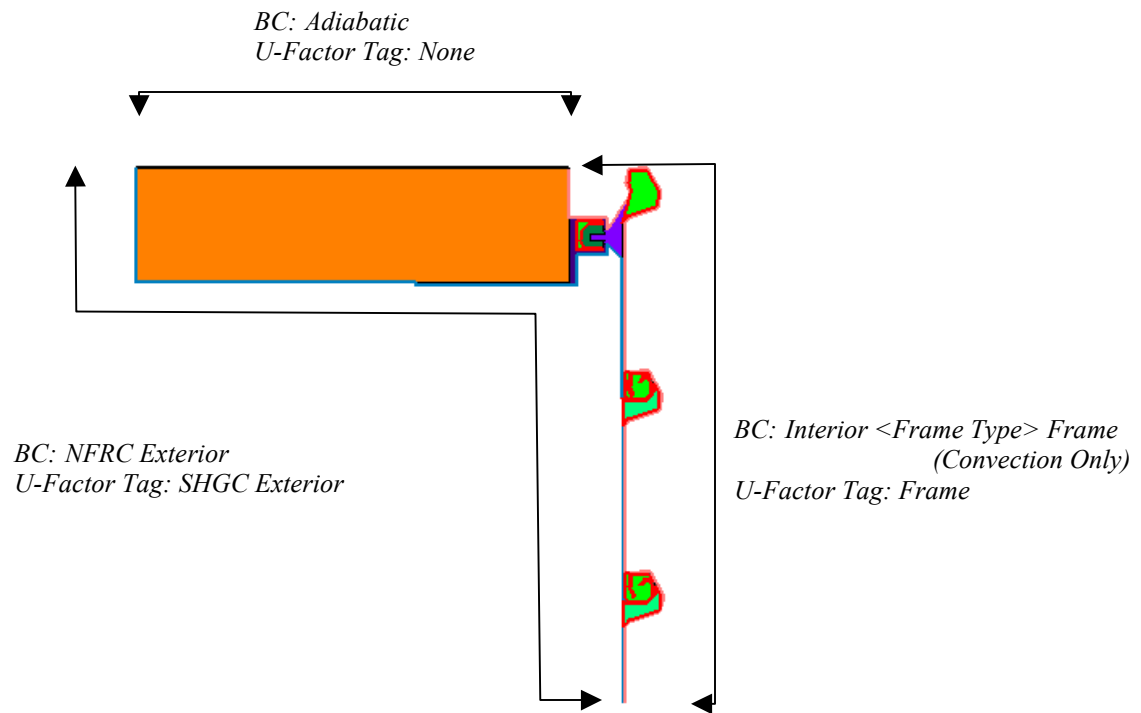

Figure 2: Top Rail THERM Model
A nominal 2x6 wood block is used in the Top Rail Model as shown in Figure 2. The torsion spring assembly, and any non-continuous hardware, shall not be included in this model. The top rail model shall include two complete slats and one half slats. The boundary condition (BC) type and U-factor tags used in the model are described in Figure 2.